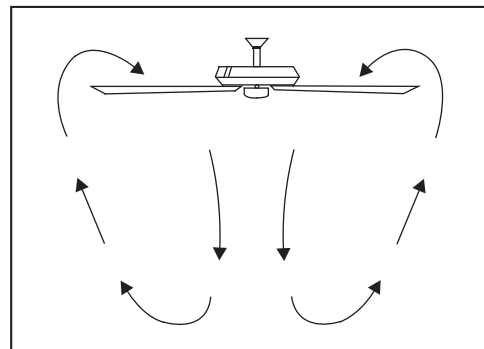

Figure 18
**Warm weather** - (Counter Clockwise Direction) A downward air flow creates a cooling effect as shown in Figure 18. This allows you to set your air conditioner on a higher setting without affecting your comfort.